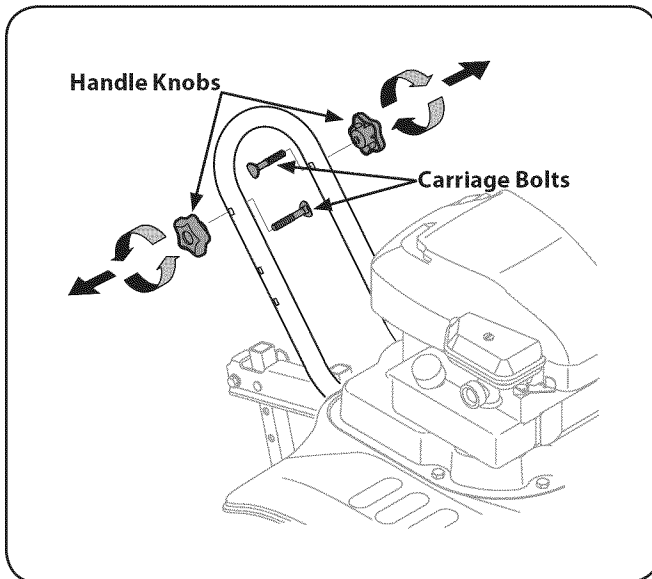

Figure 1-1
1. Remove the star handle knobs and the carriage bolts from the lower handle. See Figure 1-1.